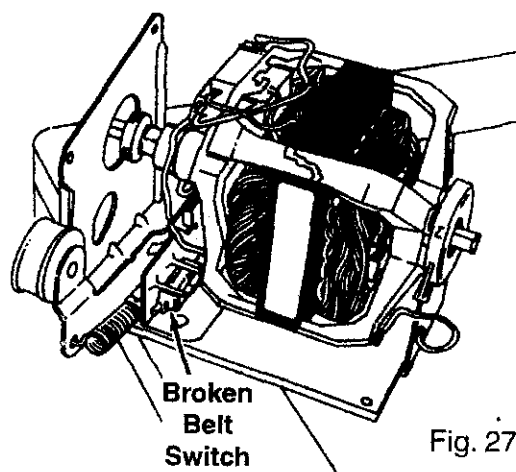

Fig. 27
NOTE: This dryer has a broken belt switch which interrupts power to the drive motor when the drive belt breaks. (Fig. 27)
5. A new Drive Belt can now be looped over the Dryer Drum. (*Fig. 27*)